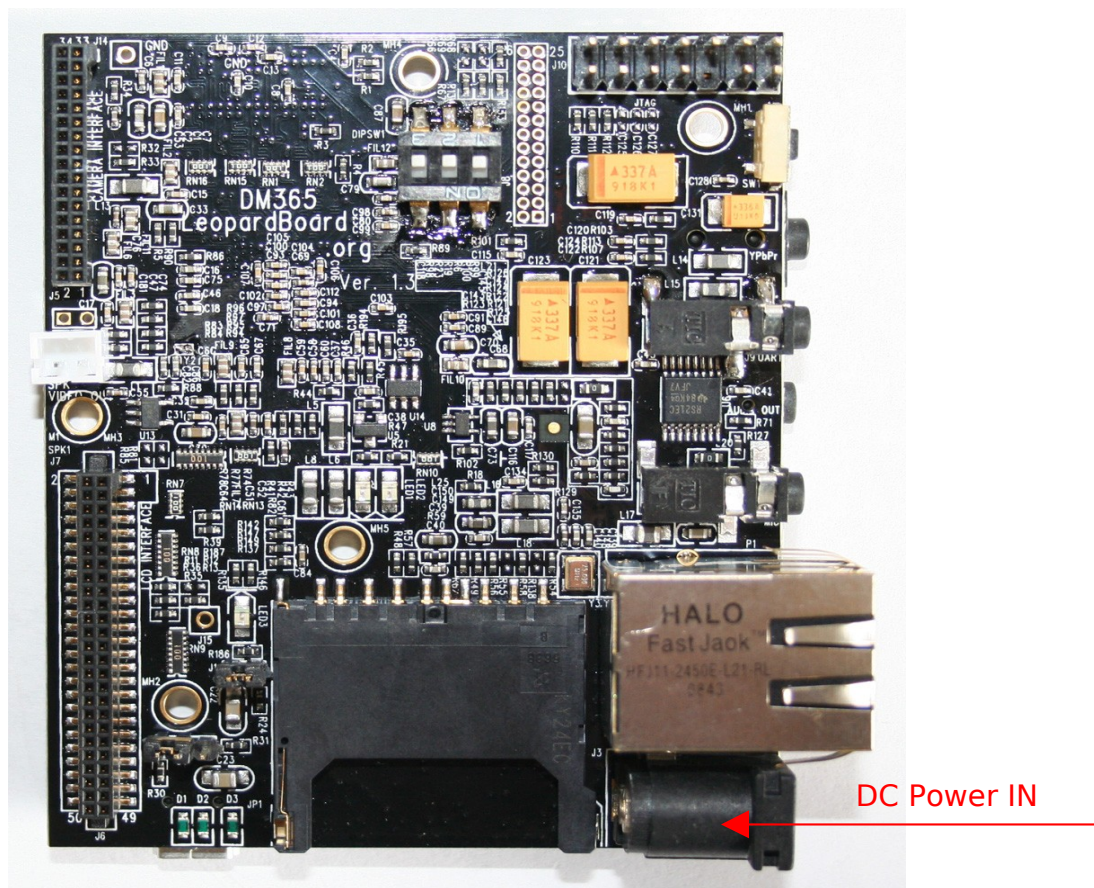

Figure 37. DC Input
**DO NOT plug in anything but 5V to the power jack, or the board will be possibly damaged although the board has over voltage protection function, see Figure 37.**